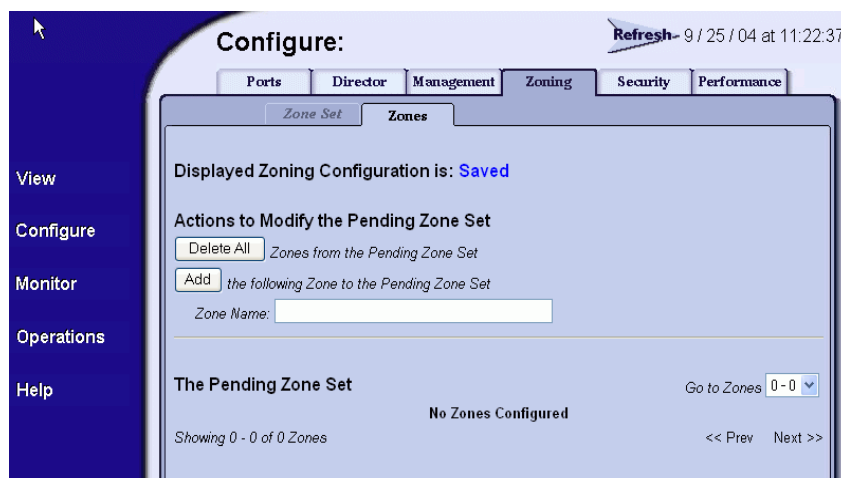

Figure 2-82 Configure Panel (Zoning Page with Zones Tab)
1. At the *Configure* panel, click the *Zoning* tab. The *Zoning* page displays with the *Zone Set* tab selected. Click the *Zones* tab. The *Zoning* page displays with the *Zones* tab selected (Figure 2-82).